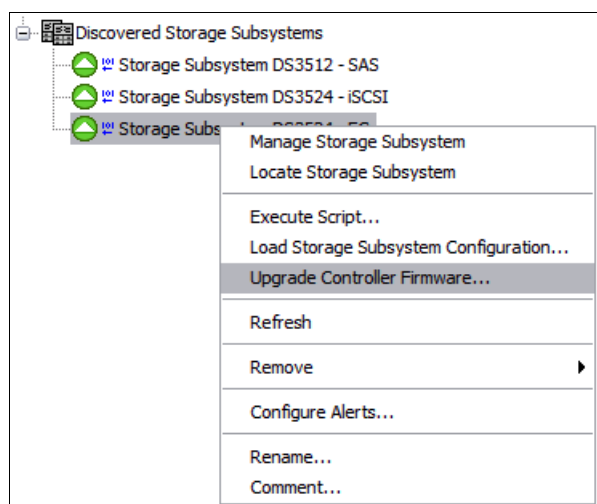

Figure 14-36 Upgrade Controller Firmware option in the Enterprise Management window
1. From the DS Storage Manager Enterprise Management window, right-click a selected DS3500 storage subsystem and select the **Upgrade Controller Firmware** option on the context menu as shown in Figure 14-36.